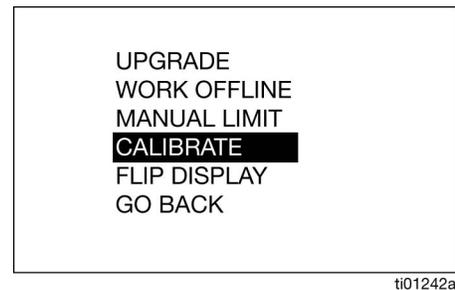

FIG. 19
6. Select the CALIBRATE option (FIG. 19).